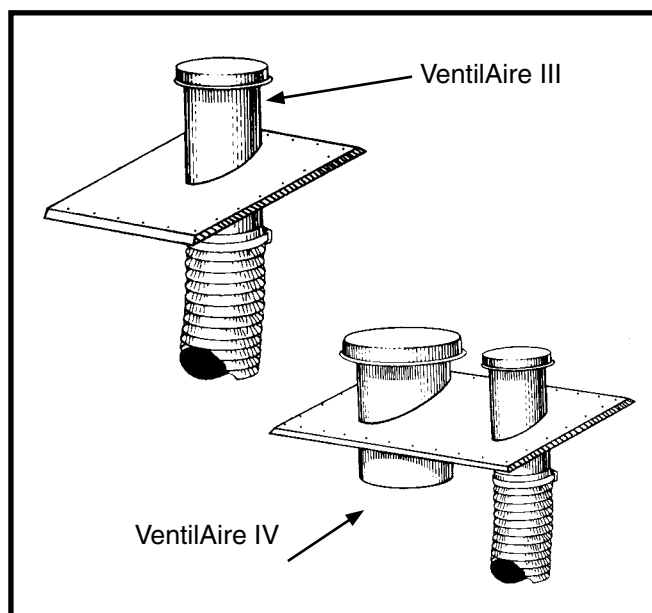

Figure 5. VentilAire III & IV
The Ventilaire air quality packages are available to meet the ventilation requirements as outlined in H.U.D. Standard Part 3280.103 (b) (2). These packages introduce outdoor air into the living space during furnace blower operation. The VentilAire IV also serves to exhaust moist and/or hot air from the attic space. See Figure 5 for typical installation. Complete installation instructions are supplied with each air quality package.